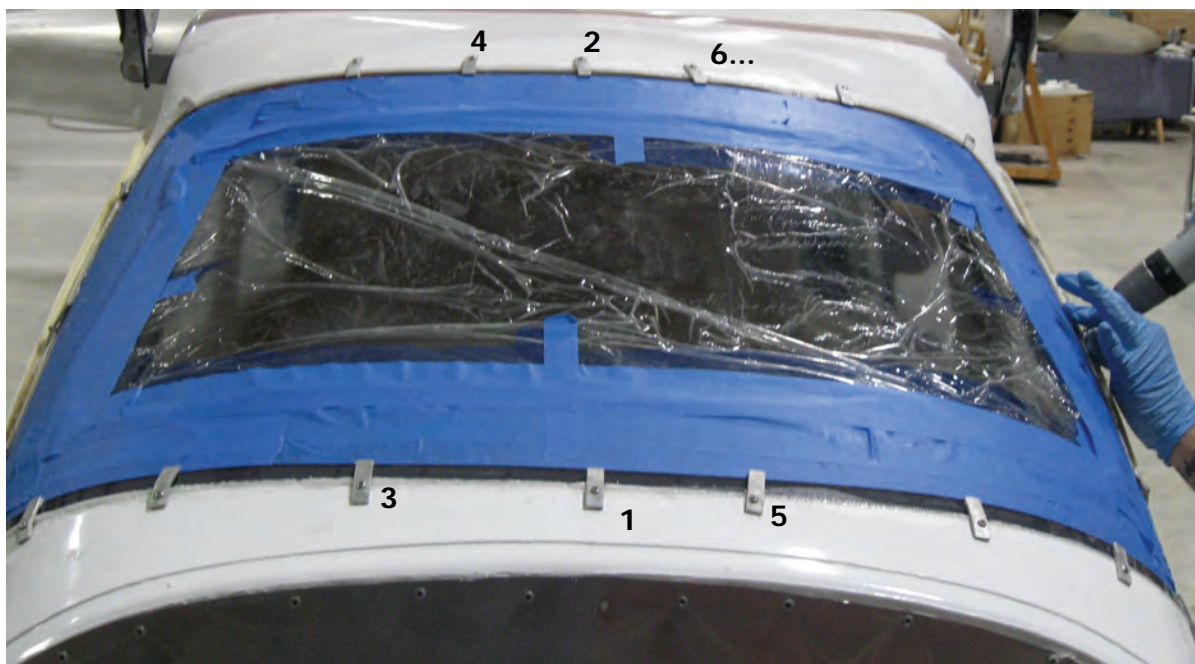

Figure 3-2: Window clamps in position. Install following the pattern shown, working from the center outward and checking alignment frequently.
9. Place windscreen accurately onto the joggle. Secure in place with the clamps shown in Figure 3-1. Install the first clamp above the top-center of the windscreen, and the second bottom center. Install all clamps in a zig-zag pattern radiating out from the center so the windscreen does not get pushed to one side or the other (see Figure 3-2).